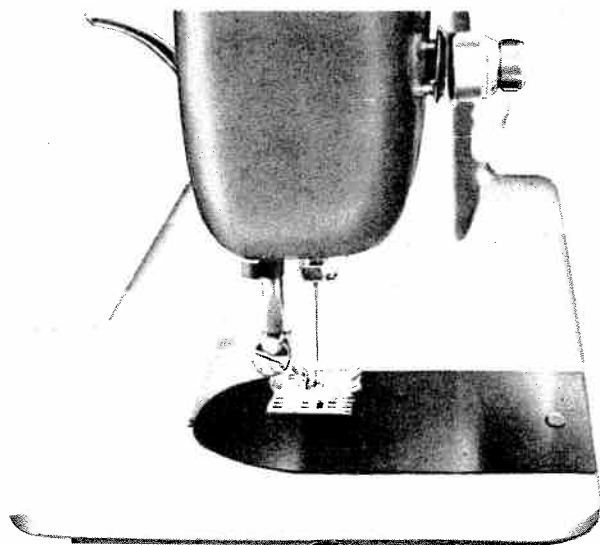

Fig. 23
Be sure to stop the machine with the thread take up lever and needle bar at the highest position. Now raise the presser foot and draw the fabric back and to the left, Fig. 23 and 24, and pass the threads over the thread cutter (A). Pull down sharply, holding the threads in both hands, so as not to bend the needle. Leave the ends of thread under the presser foot.